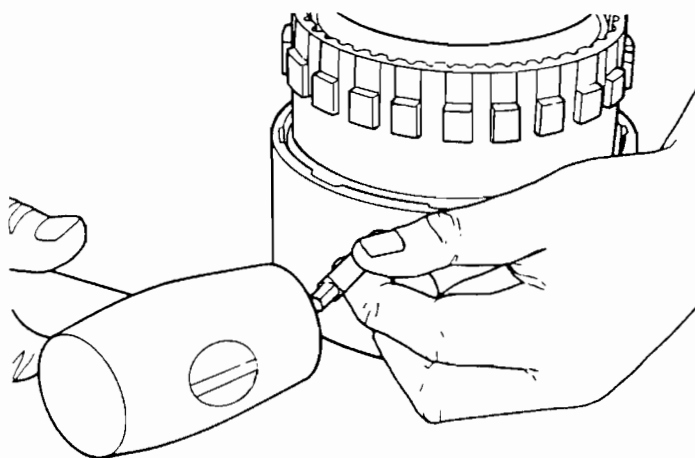

FIGURE 27
17. Mark the direct clutch drum and the annulus for exact reassembly (Figure 27).